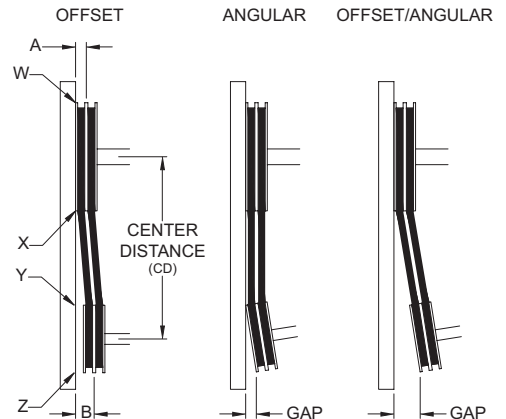

Figure 4
4. Ensure pulleys are properly aligned. Refer to Figure 4.
Figure 4 indicates where to measure the allowable gap for the drive alignment tolerance. All contact points (indicated by WXYZ) are to have a gap less than the tolerance shown in the table.